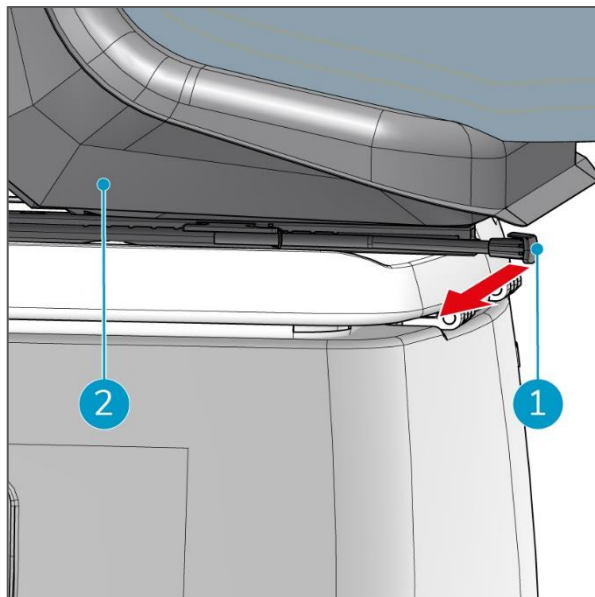

Figure 21
2. Pull the seat lever sideways (Figure 21, pos 1).
3. Move the seat (Figure 21, pos 2) backward- or forward until you are comfortable behind the steering wheel.